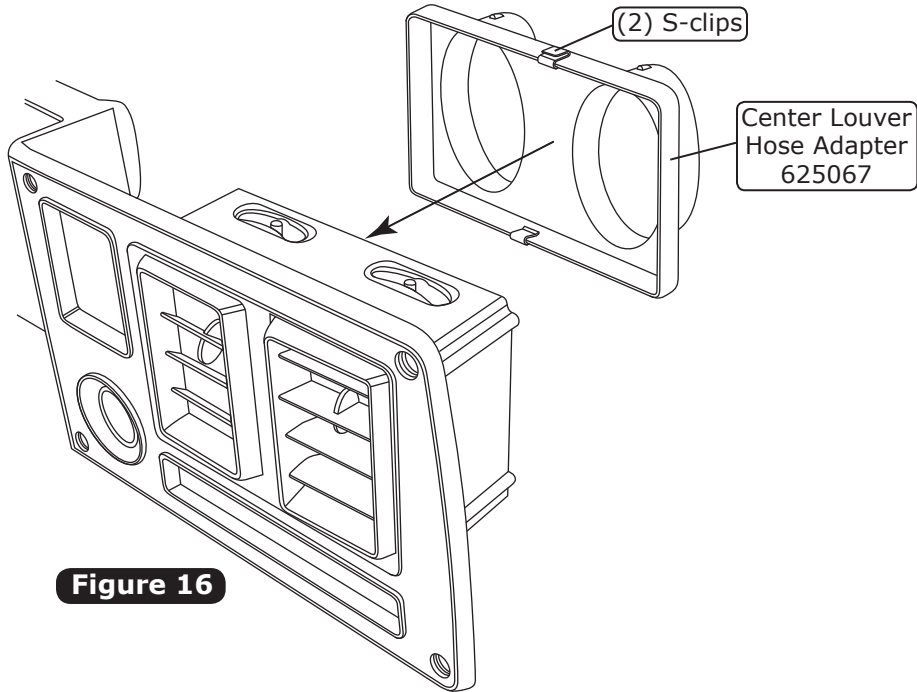

Figure 16
1. Install (2) S-clips onto the center louver hose adapter (See Figure 16, below).
2. Install the center louver hose adapter onto the center louver as shown in Figure 16, below.